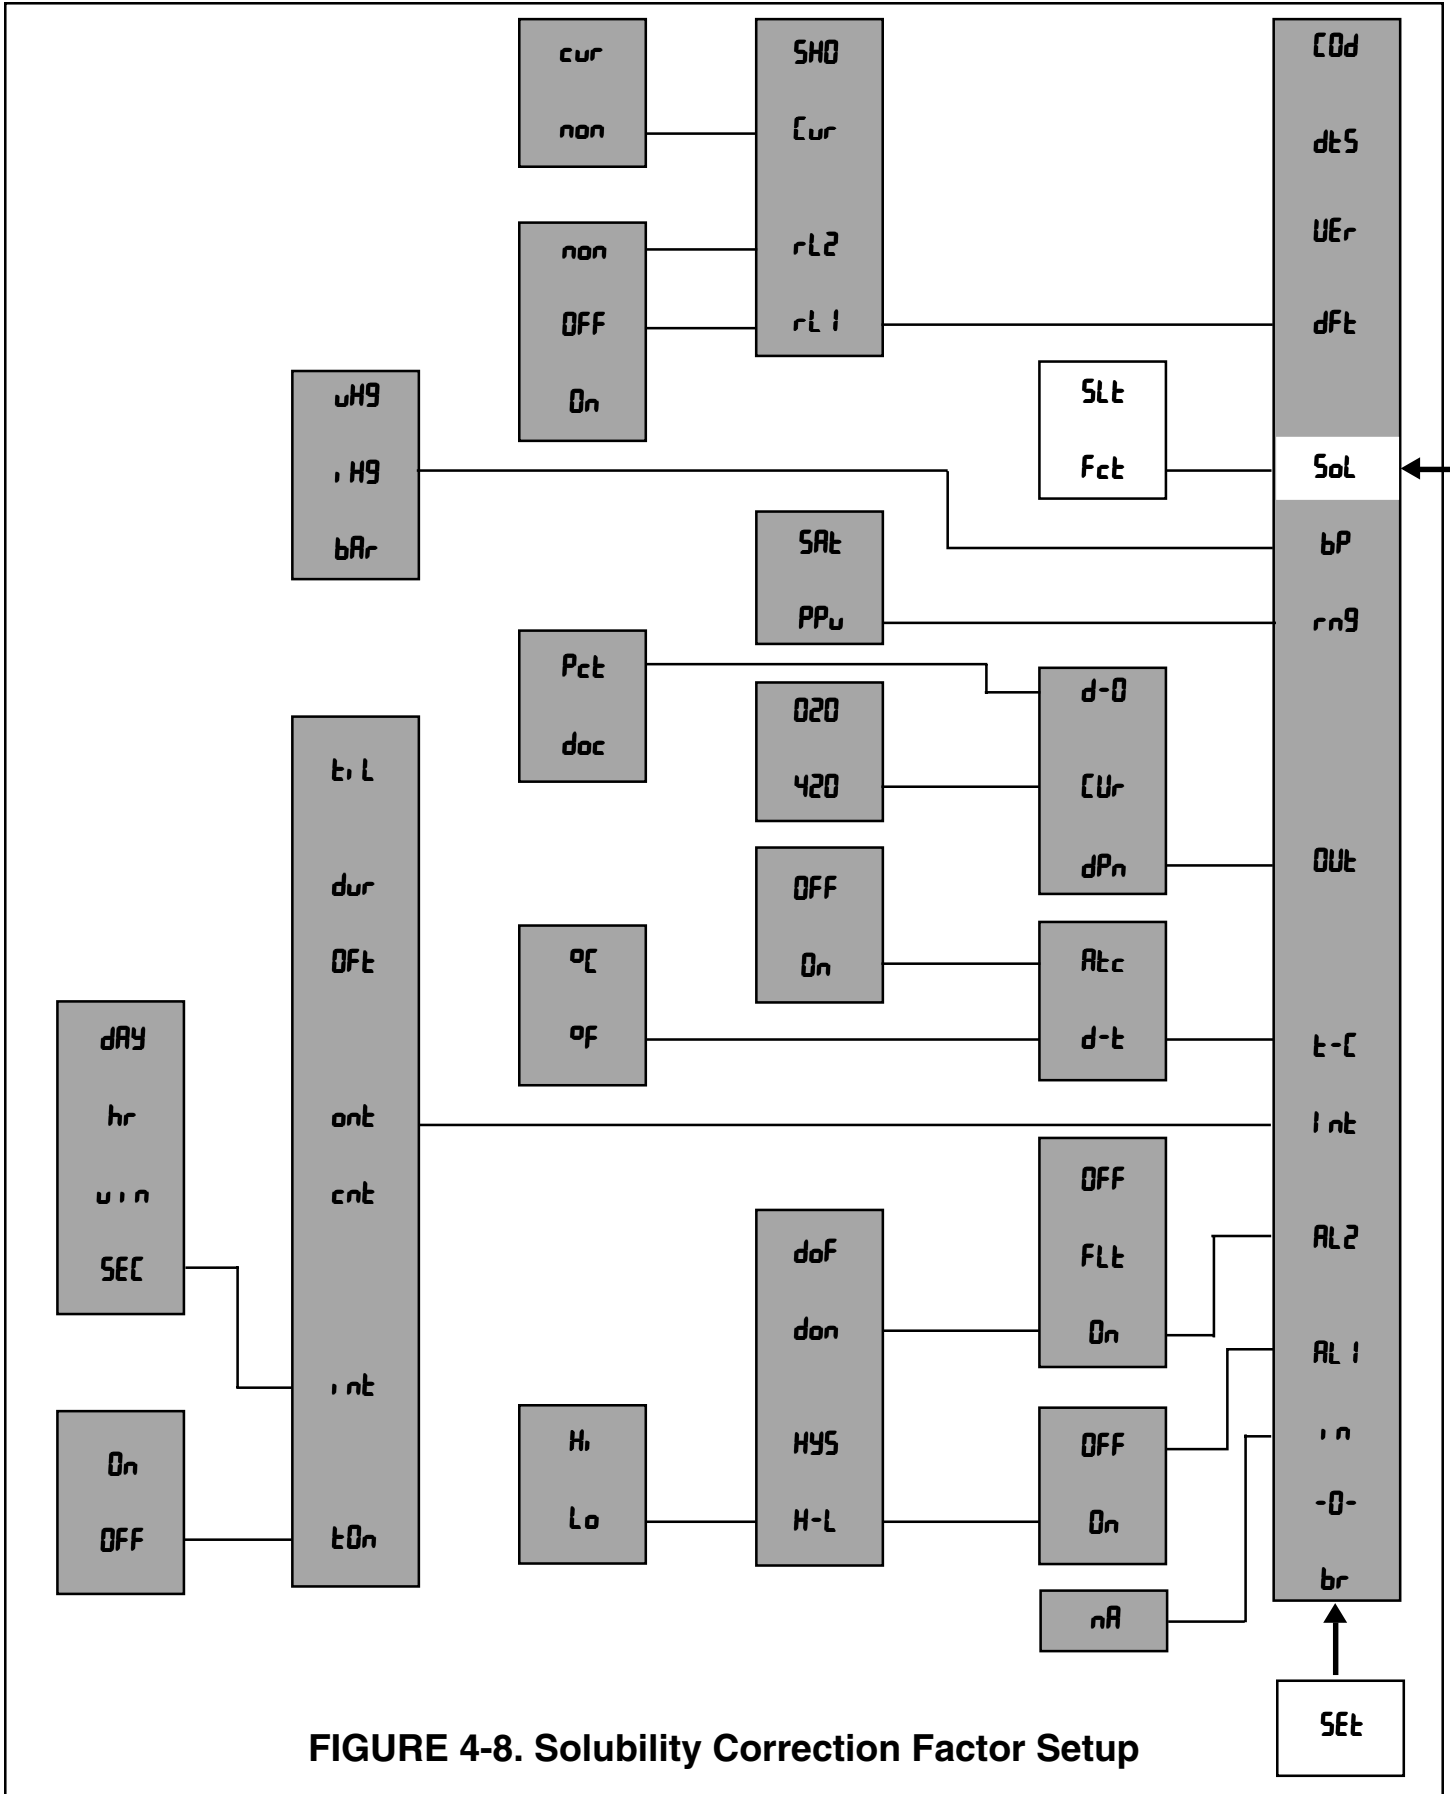

FIGURE 4-8. Solubility Correction Factor Setup
4.8.1 Solubility Correction Factor Set Up "Sol". Refer to Figure 4-8.